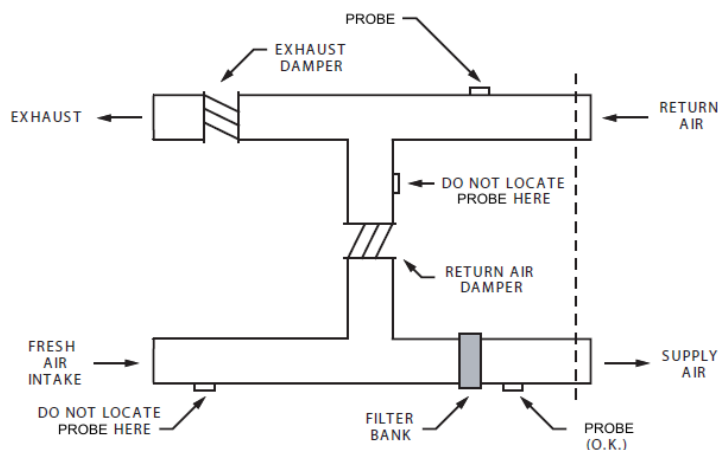

Figure 3-11: Probe Placement - Location of Dampers
2. Position the probes so that dampers do not restrict air flow at the probe location (Figure 3-11).
3. Position the probes on the return or supply duct of the equipment's air handling system. However, probes should NOT be installed in the return air damper branch (Figure 3-11).
5. Position the probes on the downstream side of filters to sense fire in filters. However, should the filters block, sufficient air flow may not be available for proper detector/sensor operation (Figure 3-11).